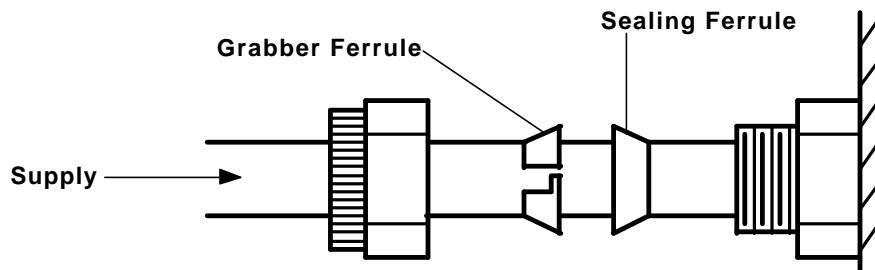

Figure 4-8. Sealing and Grabber Ferrules.
23. Ensure the sealing and grabber ferrules are positioned correctly when all tubing is reconnected. See Figure 4-8.